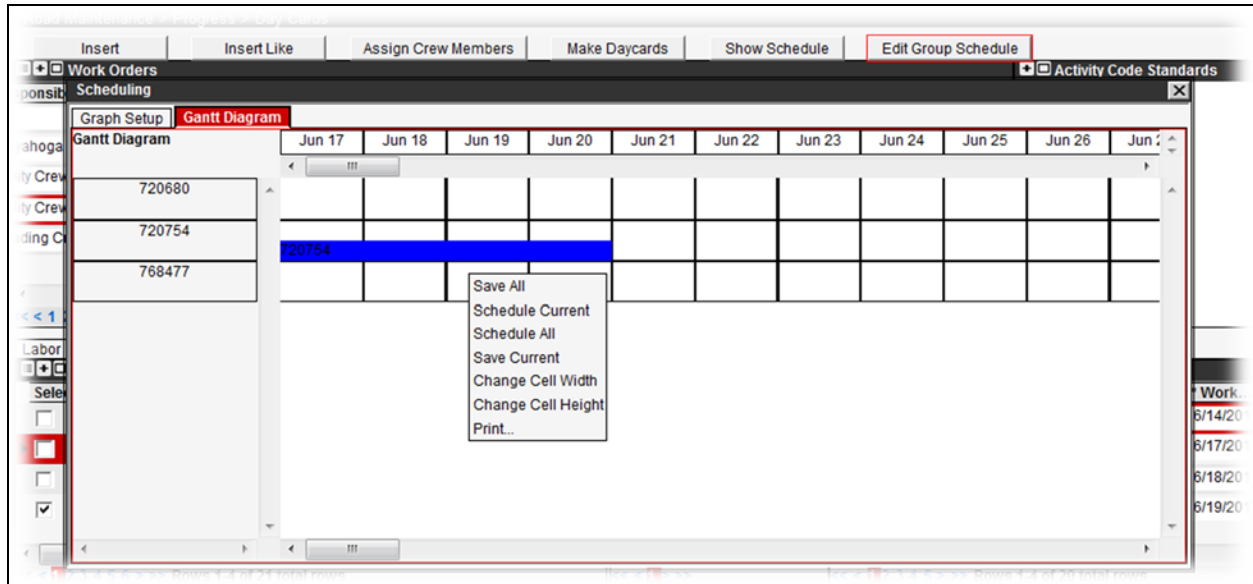

Figure 4-10. Scheduling Dialog Box - Gantt Diagram Tab Example
Show Schedule 	This command displays a Scheduling dialog box (Figure 4-10) with dates along the top and the list of Work Orders along the left side. The displayed information is read-only when this function is selected. This function is used to view all active Work Orders within the date range selected in the Graph Setup tab; whereas, Edit Group Schedule is used to show just those Work Orders belonging to a certain group of Work Orders, such as those with the same Responsible Crew.
Edit Group Schedule 	The Scheduling dialog box (Figure 4-10) opens, allowing the user to arrange Work Orders in the order in which they will be performed. The purpose of the Gantt Diagram tab is to view Work Orders chronologically and to adjust their start and end dates.
- i. The second tab is Gantt Diagram (upcoming Figure 4-10)
- Once Work Orders are displayed in the Gantt Diagram (Figure 4-10), they may be arranged in the order in which they are to be performed, provided the Day Cards exist and are unapproved.
3. To reschedule Work Orders directly in the Gantt Diagram tab (Figure 4-10), proceed as follows: